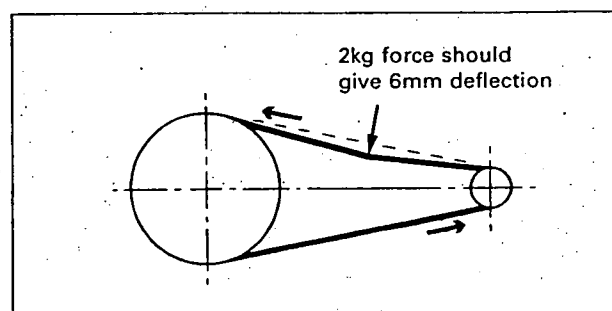

Fig. 30 V-belt tensioning
The Polyvee drive belt has been pre-stretched and tensioned during assembly but will require checking for correct tension after the first day of operation, when it will have fully seated into its grooves. Tension should be as shown in Fig. 30 and is adjustable by loosening (not removing) the three bolts securing the motor. Slot holes in the motor baseplate permit the necessary adjustment.
- 17 Tension drive belt as shown in Fig. 30.
- 20 Recheck fan rotation (see Fig. 30).